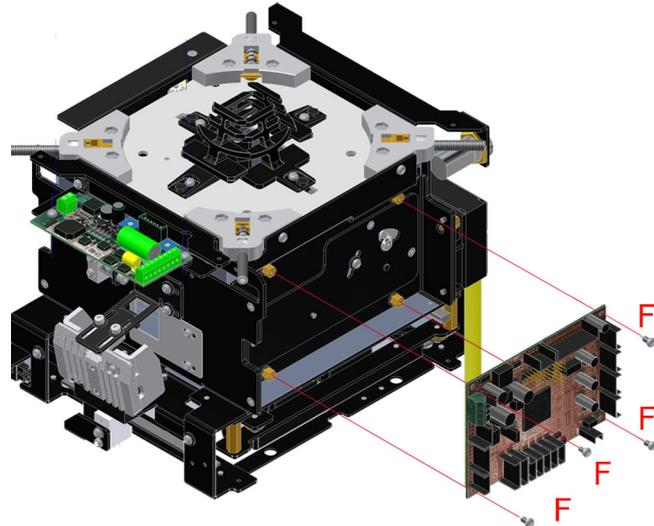

Fig. 1
- Remove the three screws on the upper partition, see **Fig.1**.